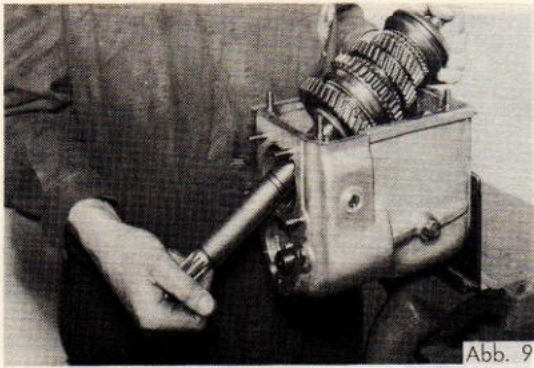

Abb. 9
12. Remove mainshaft from gear-box, by lifting it by selector slide upwards and outwards towards the input side (Fig.9).